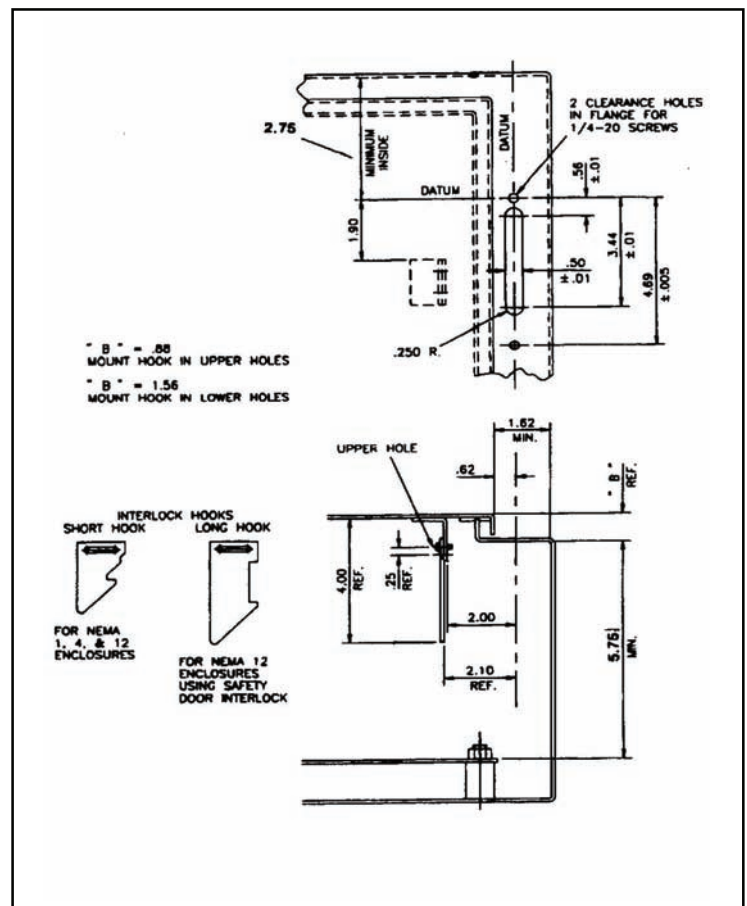

Fig. 1-7 Flange Drilling Plan for Handle and Interlock Blade Mounting Dimensions.
2. Place the outer handle mechanism with attached gasket over the enclosure cutout. (For cut-out dimensions, refer to Fig. 1-7.) Insert the top 1/4-20 outer handle mech mounting screw and lockwasher through the enclosure and thread into the outer handle mechanism for a few turns, but not all the way.
12. Install appropriate door hardware (supplied) (see Fig. 1-7).